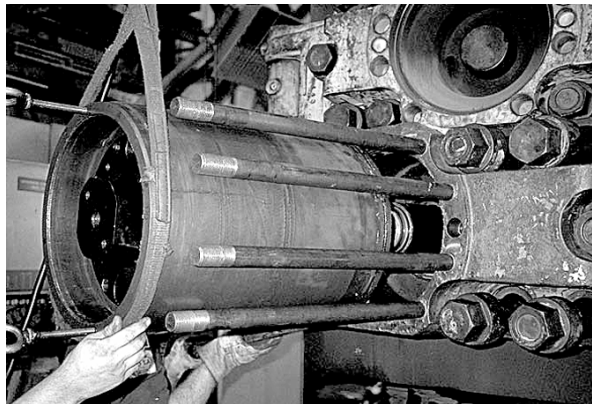

Figure 5-71. Typical Lifting of Piston Assembly into Door
- b. Lubricate seal assembly (4) and ram shaft (2) with lightweight oil. Attach a web-lifting strap around the piston assembly and lift. Position the ram shaft in front of the cylinder side of the door and in alignment with the seal assembly. Insert the ram shaft carefully into the seal assembly, using "come alongs" or other manual lifting devices to precisely control the assembly (see Figure 5-71).